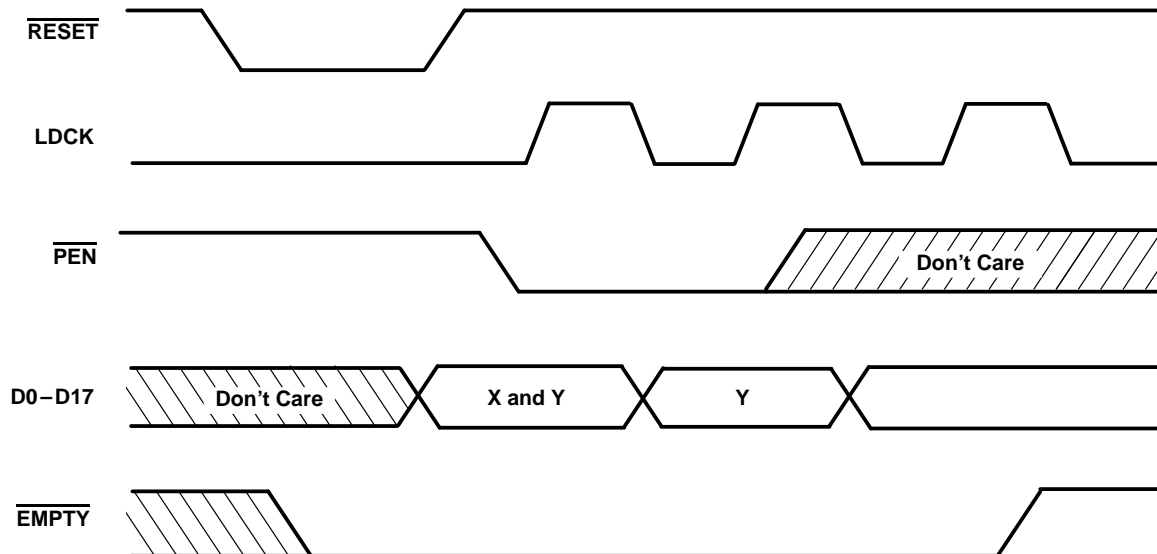

Figure 2. Programming X and Y Separately
To program the offset values, $\overline{\text{PEN}}$ can be brought low after reset. On the following low-to-high transition of LDCK, the binary value on D0–D7 is stored as the almost empty offset value (X) and the almost full offset value (Y). Holding $\overline{\text{PEN}}$ low for another low-to-high transition of LDCK reprograms Y to the binary value on D0–D7 at the time of the second LDCK low-to-high transition. Writes to the FIFO memory are disabled while the offsets are programmed. A maximum value of 255 can be programmed for either X or Y (see Figure 2). To use the default values of X = Y = 64, $\overline{\text{PEN}}$ must be held high.